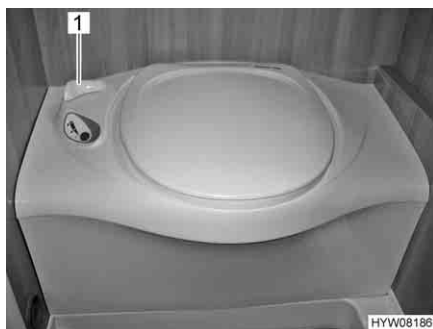

Fig. 256 Thetford toilet
- Before flushing open the sliding trap of the Thetford toilet. To do this, turn the slide lever (Fig. 256,1) in an anticlockwise direction.
- After flushing close the sliding trap. To do this turn the slide lever (Fig. 256,1) in a clockwise direction.